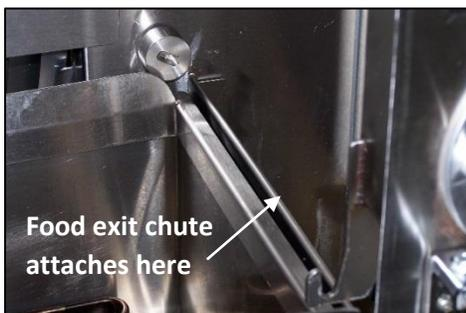

Figure 9
- Slide the food exit chute, flange side up, through the cut-out on the side of the AutoFry and slip the flange over the edge of the interior wall. Figure 9.